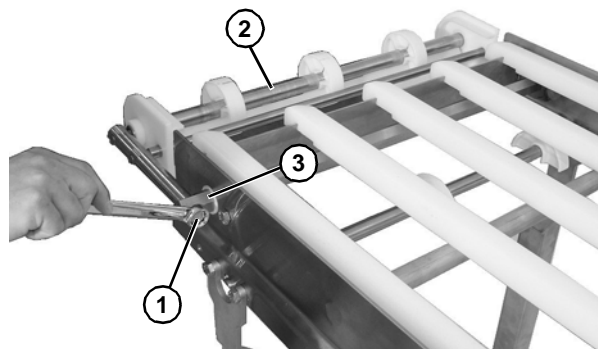

Figure 61
1. Remove bolt (Figure 61, item 1) from each side, and remove idler tail assembly (Figure 61, item 2) from take up blocks (Figure 61, item 3).